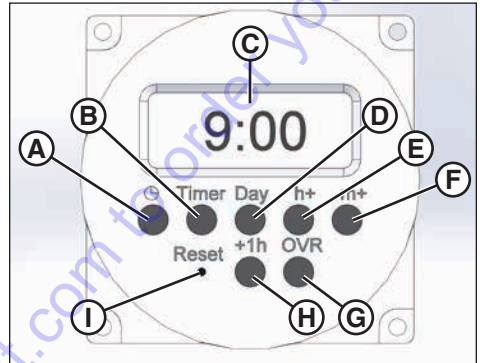

Figure 14
- Press the Hour (E, Figure 14) and Minute (F) buttons until the desired time for the timer to turn on appears.
- Press the Timer button (B, Figure 14) again. OFF will appear to the left of the display.
- Press the Day button (D, Figure 14) repeatedly to turn on or off each day the timer will turn off.
- Press the Hour (E, Figure 14) and Minute (F) buttons until the desired time for the timer to turn off appears.